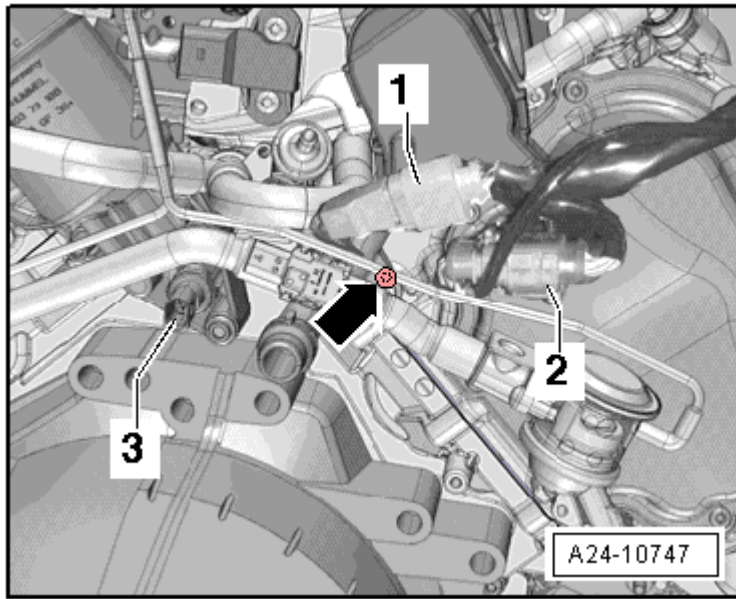

Fig. 8: Locating Components On Engine
- Component location, refer to **Fig. 8**